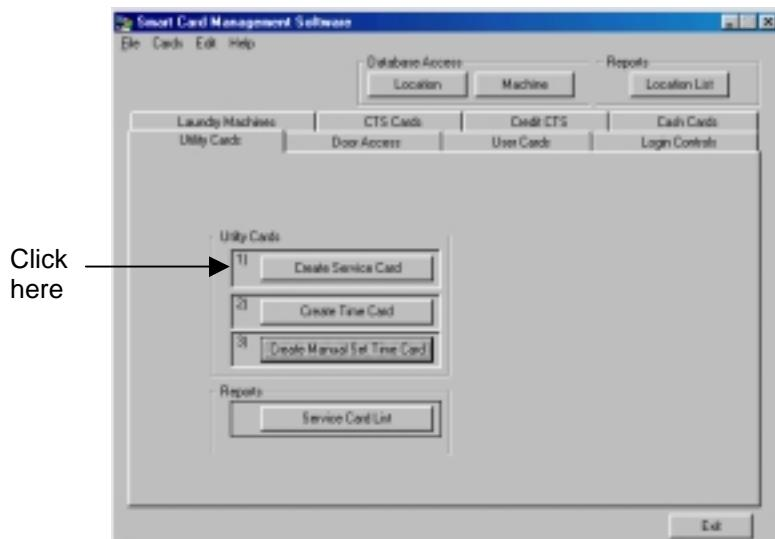

Figure 13.1 Creating a Service Card
1. Click the Create Service Card button in the Utility Cards Manager (Figure 13.1).